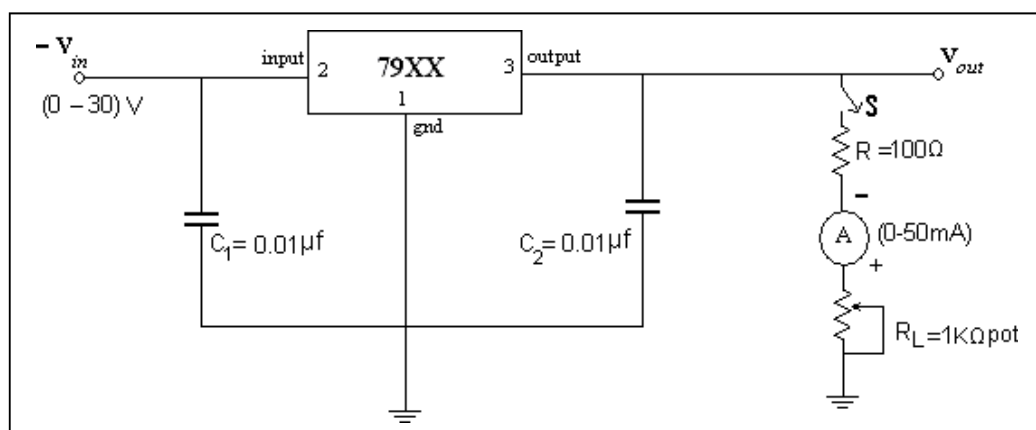

Fig 2 Negative Voltage Regulator Circuit
3. Repeat the above steps for negative voltage regulator as shown in Fig.2 for 7912 for an input of 0 to -15V.
3. Repeat the above steps as shown in Fig 2 by keeping switch S closed for negative voltage regulator 7912.